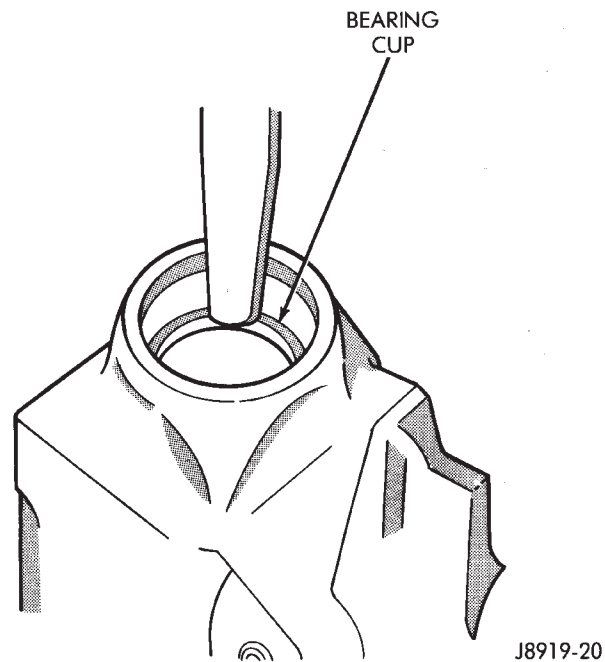

Fig. 10 Wormshaft Upper Bearing Cup Removal
(1) Remove wormshaft upper bearing cup with a hammer and a brass punch (Fig. 10).